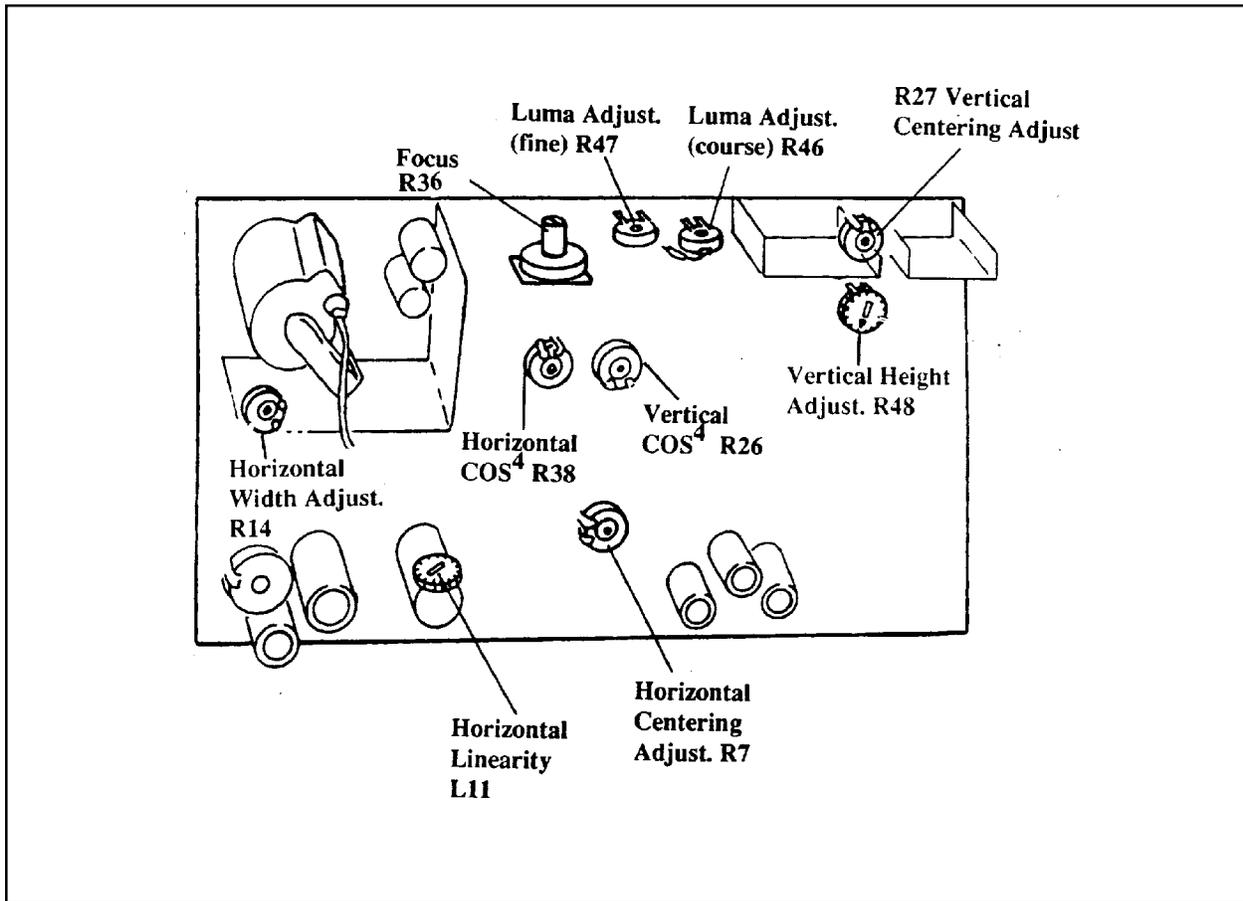

Figure 5-2. Adjustment Locations
3. Adjust R46 course brightness (Figure 5-2) to a level that's easily visible to the eye-approximately 6 ft. Lamberts.
2. Return the Vertical Centering pot (R27) and the Horizontal Centering pot (R7) - Figure 5-2, to their nominal (center) positions.
4. Adjust R7 on the Monitor Board to fine tune Horizontal Centering (Figure 5-2).
5. Adjust R27 on the Monitor Board to fine tune Vertical Centering (Figure 5-2)
6. Adjust R48 on the Monitor Board to obtain proper Vertical Height (Figure 5-2).
7. Adjust R14 to obtain proper Horizontal Width (Figure 5-2).
8. Adjust L11 to obtain proper Horizontal Linearity (Figure 5-2).
8. Adjust the **brightness to 7.5 ft.** Lamberts on the Multimeter - using Luma Adjust pots R46 (course) and R47 (fine) - Figure 5-2.
The objective is to set Horizontal (R38) (Figure 5-2) for 600 millivolts which is measured at E4 (green wire at CRT cap), and to set Vertical (R26) (Figure 5-2) for 300 millivolts using Gentest.
3. When the sharpest image is obtained, adjust R36 focus (Figure 5-2) for optimal focus.